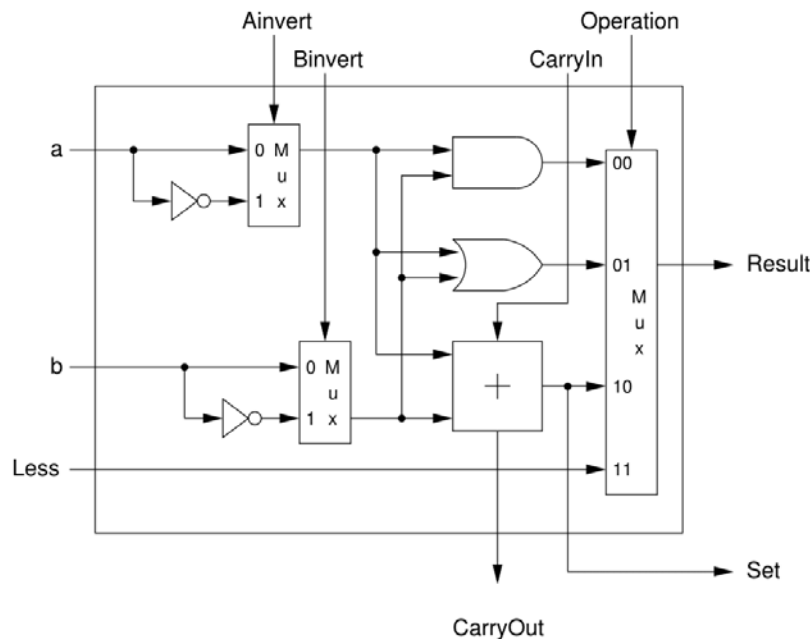

Figure 1. A fully featured one-bit arithmetic-logical unit, with signals to help support `slt`.
- Recall that the *Set* output is **only** used from the adder of the MSB. For simplicity, we will allow all of our one-bit ALUs to generate this signal as shown in Figure 1, but we will not connect this signal anywhere when it is not needed.